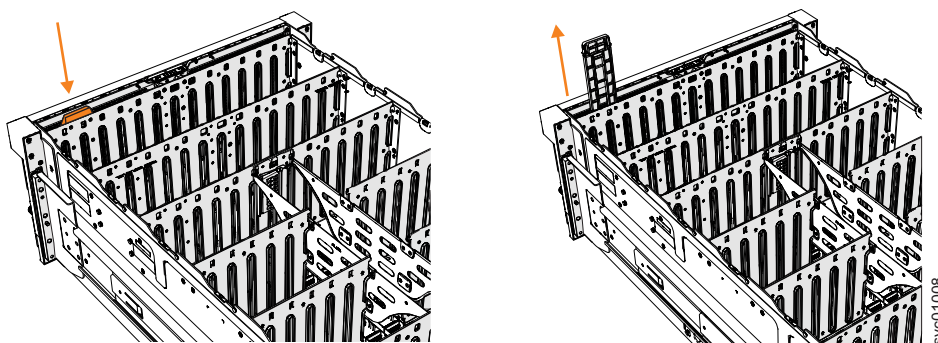

Figure 108. Removing the display panel assembly
3. Press the release tab at the top of the display panel assembly, as shown in Figure 108 on page 115.